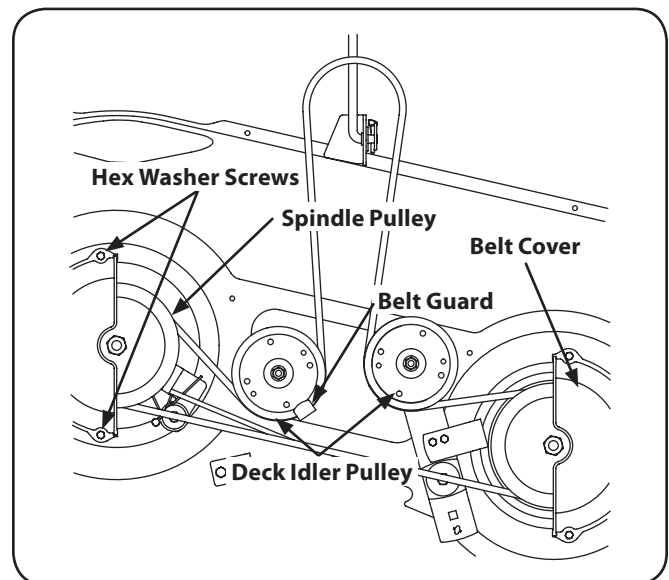

Figure 7-7
2. Remove the belt covers by removing the hex washer screws that fasten them to the deck. See Fig. 7-7.
4. Carefully remove the deck belt from around the two spindle pulleys and the two deck idler pulleys. See Fig. 7-7.